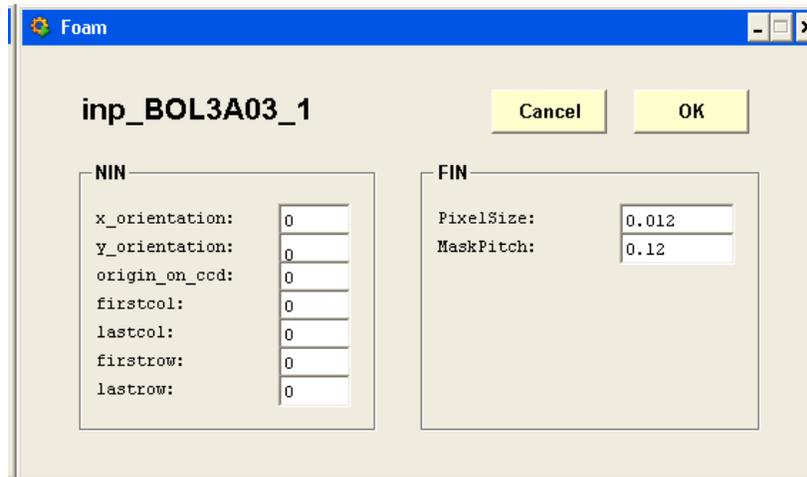
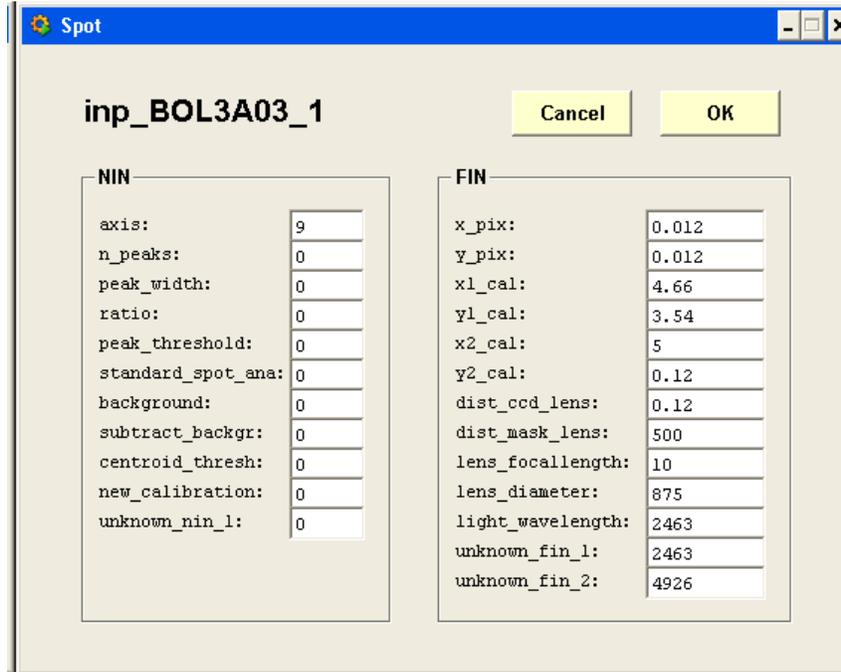
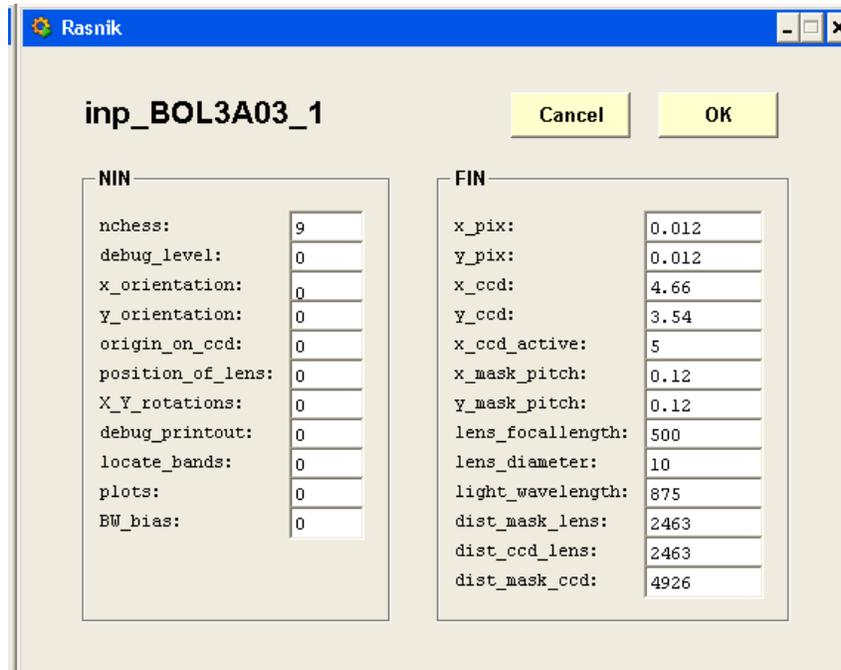

Figure 2.11: Foam analysis parameters
Figure 2.12: Spot analysis parameters
Figure 2.13: Rasnik analysis parameters
14. *Param*: This subject denotes the parameters of the analysis and is therefore dependent on the chosen type. Figure 2.11 shows the parameters of analysis type Foam, Figure 2.12 of type Spot and for completeness Figure 2.13 of type Rasnik.